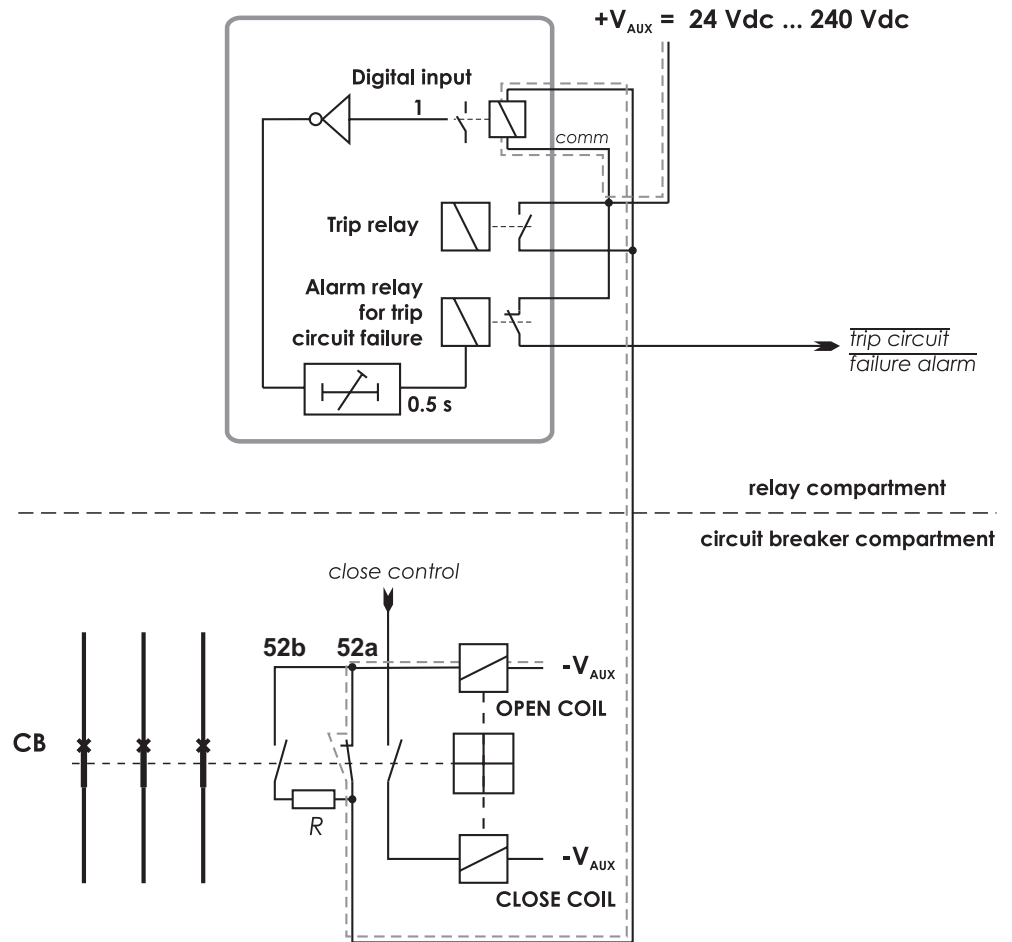

Figure 7.12: Trip circuit supervision using a single digital input and an external resistor R.
- The digital input is connected parallel to the trip contacts (Figure 7.12).
- The digital input is configured as normal closed (NC).